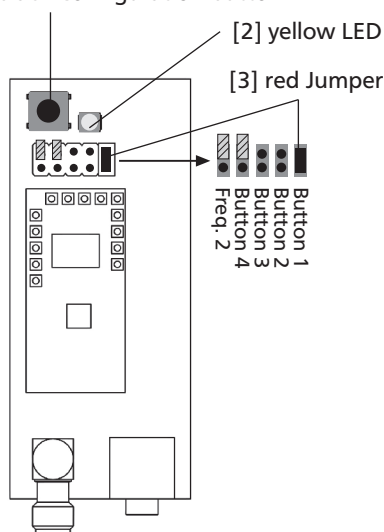

Fig. 1: Button 1 activated, Jumpers on Button 4 and Freq. 2 inactive (stored).
*Figure 1* shows a receiver with jumper active in „Button 1“, and in storage (inactive) position on „Button 4“ and „Freq. 2“. This receiver will respond to Button 1 on any transmitter that has paired with it.